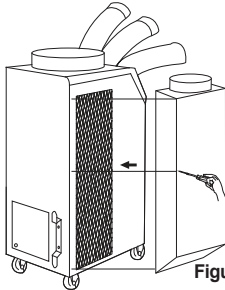

Figure 6
3. Use screws (enclosed inside of box with air adapter) to install the adapter on the air conditioner as shown in Figure 6.